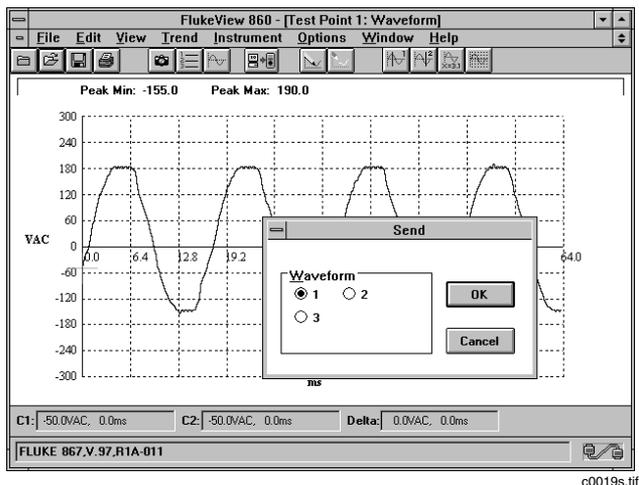

Figure 19. Sending a Waveform to GMM Memory
2. Select Instrument - Send To. A Send dialog box (Figure 19) appears.